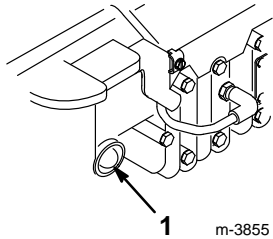

Figure 10
1. Push the primer three times (five times if the temperature is 13°C/55°F or below), waiting 2 seconds between each push (Fig. 10).